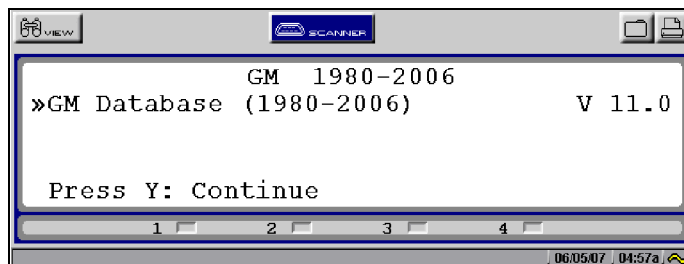

Figure 5-36 Sample Software Confirmation screen
1. Press **N/X** until you reach the software confirmation screen (Figure 5-36).